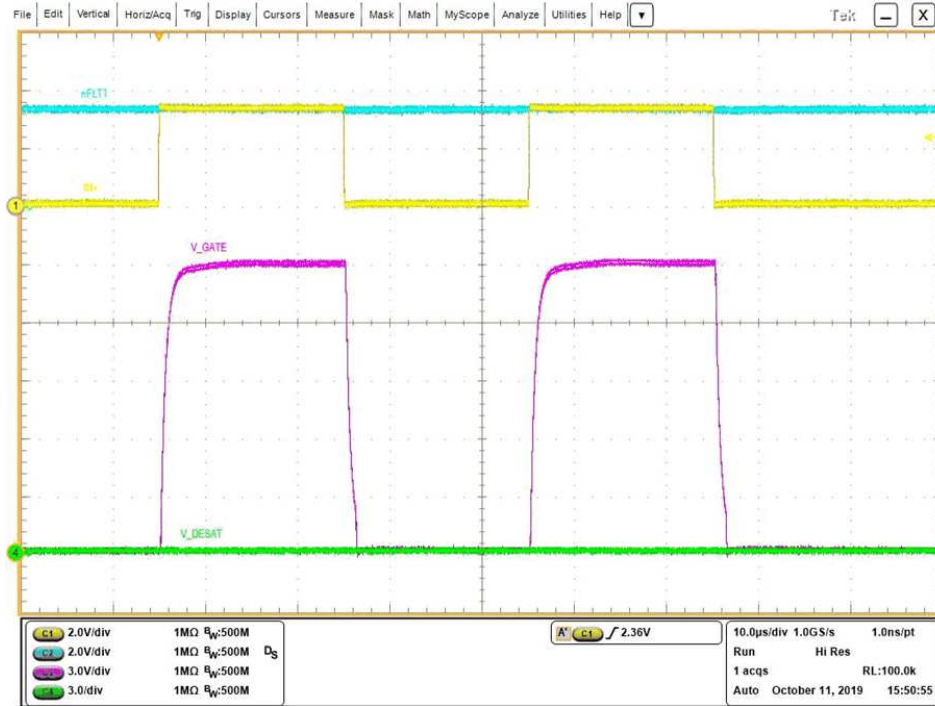

Figure 17. Double Pulses Test Waveforms
14. Click "Test", double pulses waveforms in Figure 17 will be generated.